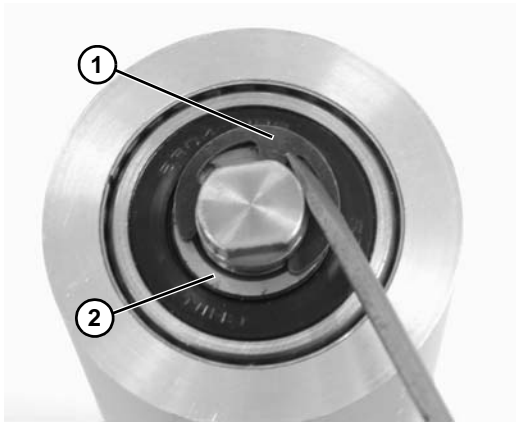

Figure 113
6. Remove the pulley shaft assembly: remove the clip ring (**Figure 113, item 1**) and washer (**Figure 113, item 2**) from one side of the pulley assembly.